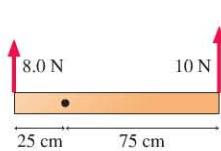

FIGURE P7.13
13. What is the net torque of the bar shown in Figure P7.13, about the axis indicated by the dot?